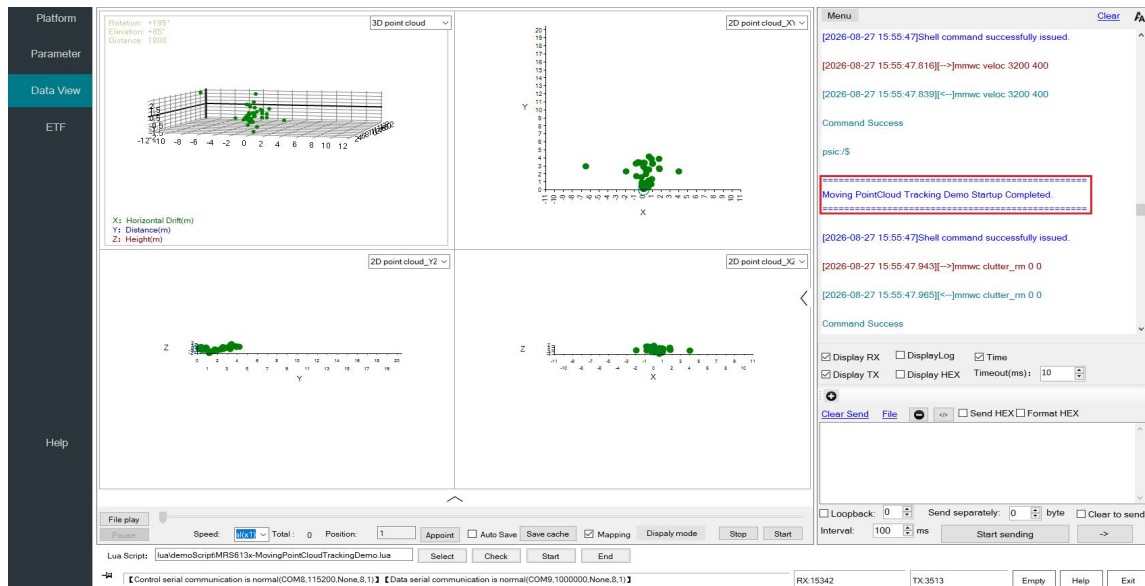

Figure 2-17 Motion Point Cloud/Tracking Data View
2. The software automatically switches to Data View, as shown in Figure 2-17. For details, see Data View Display (Point Cloud).